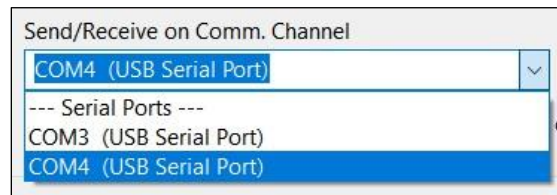

Figure 7.60. USB Serial Port Selection
7. Select the last USB serial port in the list, as shown in Figure 7.60.